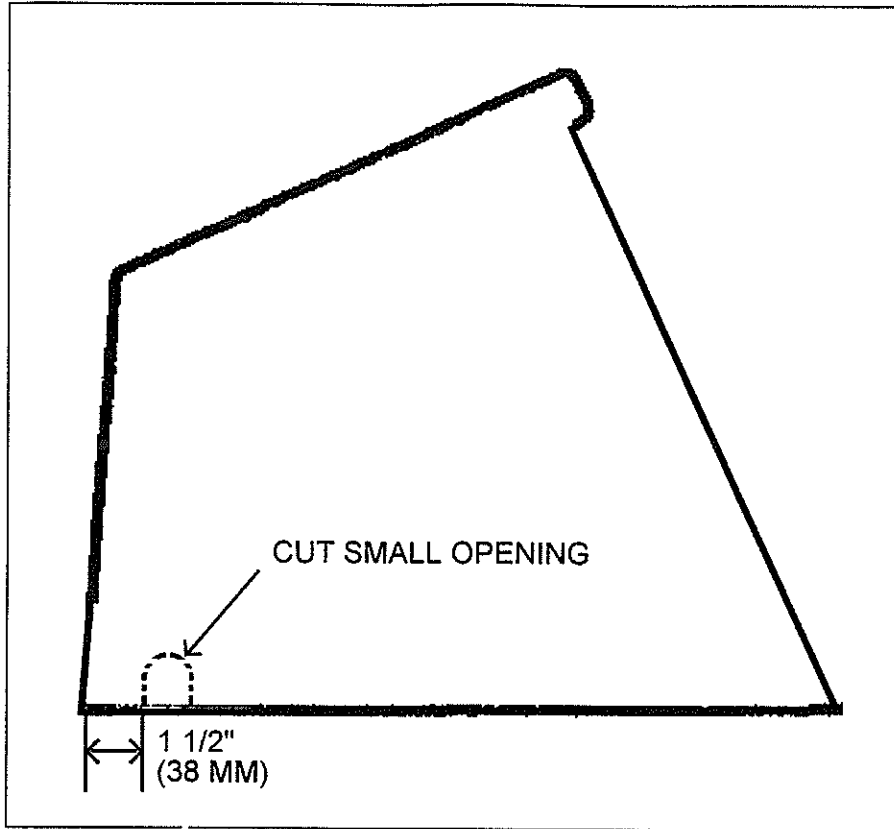

FIGURE 4 - L.H. SIDE OF DASHBOARD UPPER COVER
14. Cut a small opening (half moon) at bottom of dashboard upper cover (see fig. 4) then reinstall upper cover.